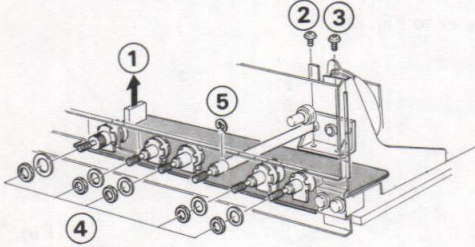

Fig. 14
- 1) Remove connector (1) and 2 screws ((2) and (3)).
- 2) Remove 5 nuts (4) and E ring (5).
- (Refer to Fig. 14)